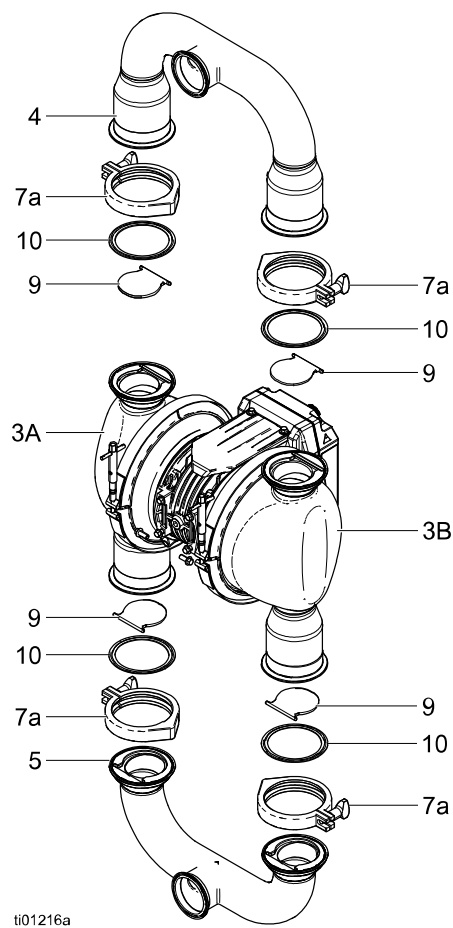

FIG. 19. Check Valves (Vertical Flapper Pump)
See FIG. 19.
3. Remove the clamps (7a) on the outlet manifold and remove the manifold (4), see FIG. 19, or remove manifold (4) assembly, see FIG. 20.